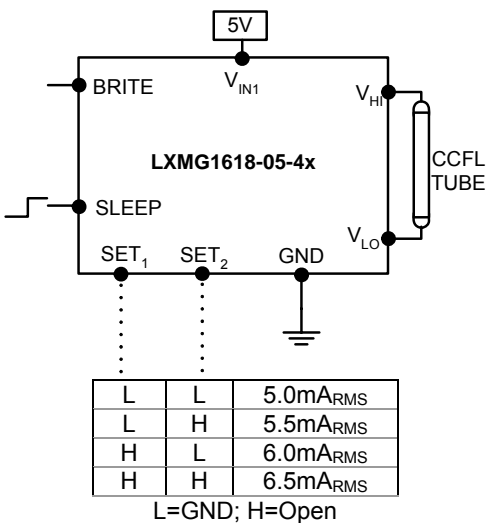

Figure 2 – Max Output Current (SET₁ and SET₂ Inputs)
- Use the SET₁ and SET₂ (see Figure 2) inputs to select the desired maximum output current. Using these two pins in combination allows the inverter to match a wide variety of panels from different manufactures. Generally the best lamp lifetime and efficiency correlates with driving the CCFL at the manufactures nominal current setting. However the SET₁ and SET₂ inputs allow the user the flexibility to adjust the current to the maximum allowable output current to increase panel brightness at the expense of some reduced lamp life.